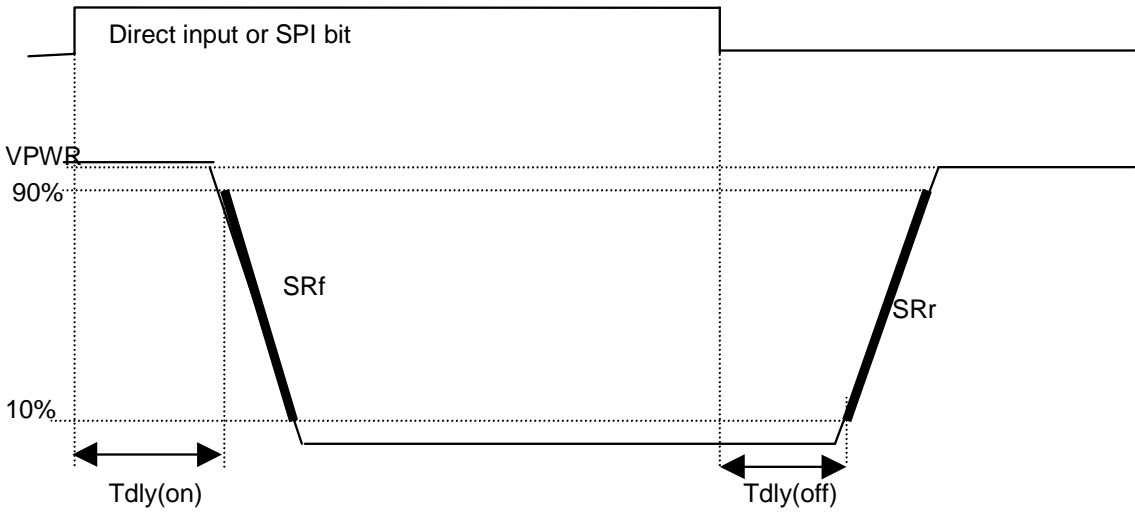

Figure 6. Output Slew Rates and Time Delays, Low Side
31. Low-side output rise and fall slew rates measured across a $5.0\ \Omega$ resistive load at low-side output = 10% to 90% (see Figure 6, page 17).
32. Low-side output turn-ON delay time measured from 50% of the rising ILS to 90% of V_{OUT} with $R_L = 27\ \Omega$ resistive load (see Figure 6, page 17).
33. Low-side output turn-OFF delay time measured from 50% of the falling ILS to 10% of V_{OUT} with $R_L = 27\ \Omega$ resistive load (see Figure 6, page 17). These parameters are guaranteed by process monitoring.